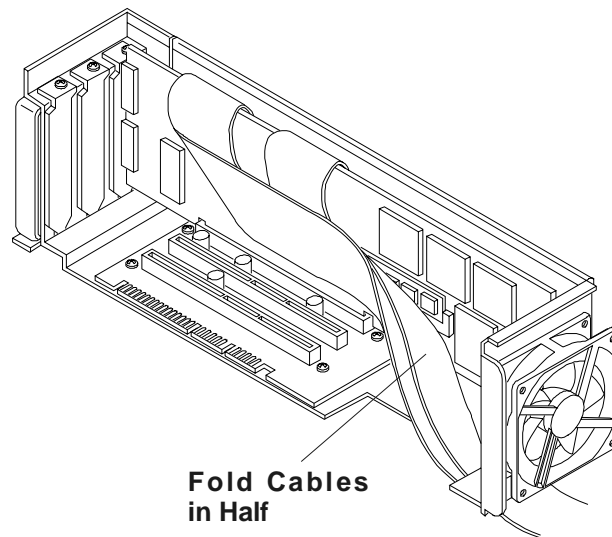

Figure 3-11. Folding Cables within the PCI Card Cage
5. Fold the cables in the PCI card cage as shown in Figure 3-11.